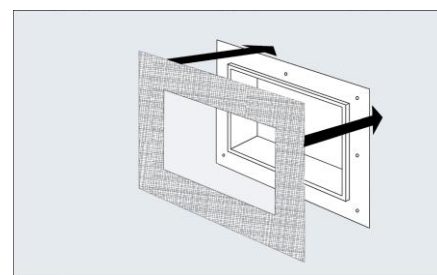

Fig. 4
**STEP 6:** Starting by folding down 30mm of the backing release paper at the top edge, apply the Connection Sheet over the entire Niche face and onto the primed wall board area. Press firmly to ensure total adhesion. (Fig 4).